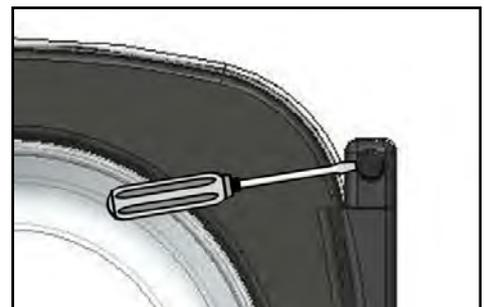
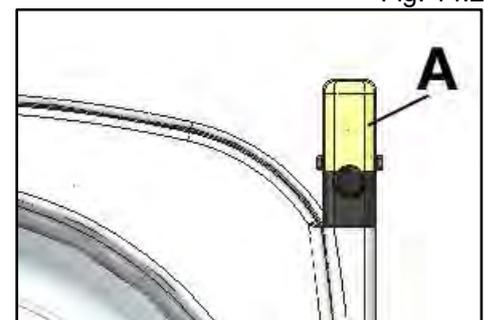

Fig. 14.2
Fig. 14.3
- Remove the protective caps of the hinge locking screws (Fig. 14.2). In models HS-6024, HS-6028, HS-6032, EH060, EH070 and EH080, first remove the plastic guard (Fig. 14.3/A).